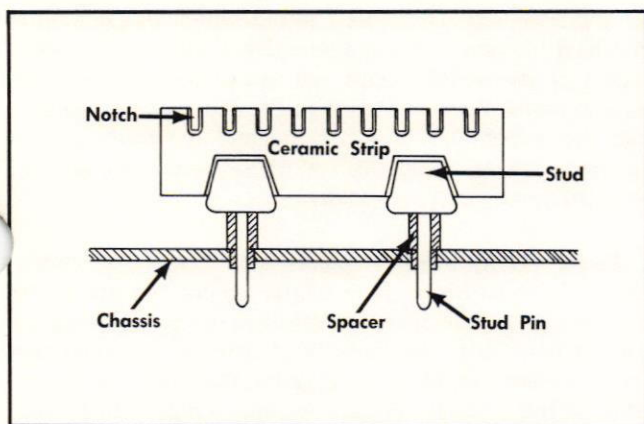

Fig. 4-4. Ceramic terminal strip assembly.
**Ceramic Terminal Strip Replacement.** A complete ceramic terminal strip assembly is shown in Fig. 4-4. Replacement strips (including studs) and spacers are supplied under separate part numbers. However, the old spacers may be re-used if they are not damaged. The applicable Tektronix Part Numbers for the ceramic strips and spacers used in this instrument are given in the Mechanical Parts List.